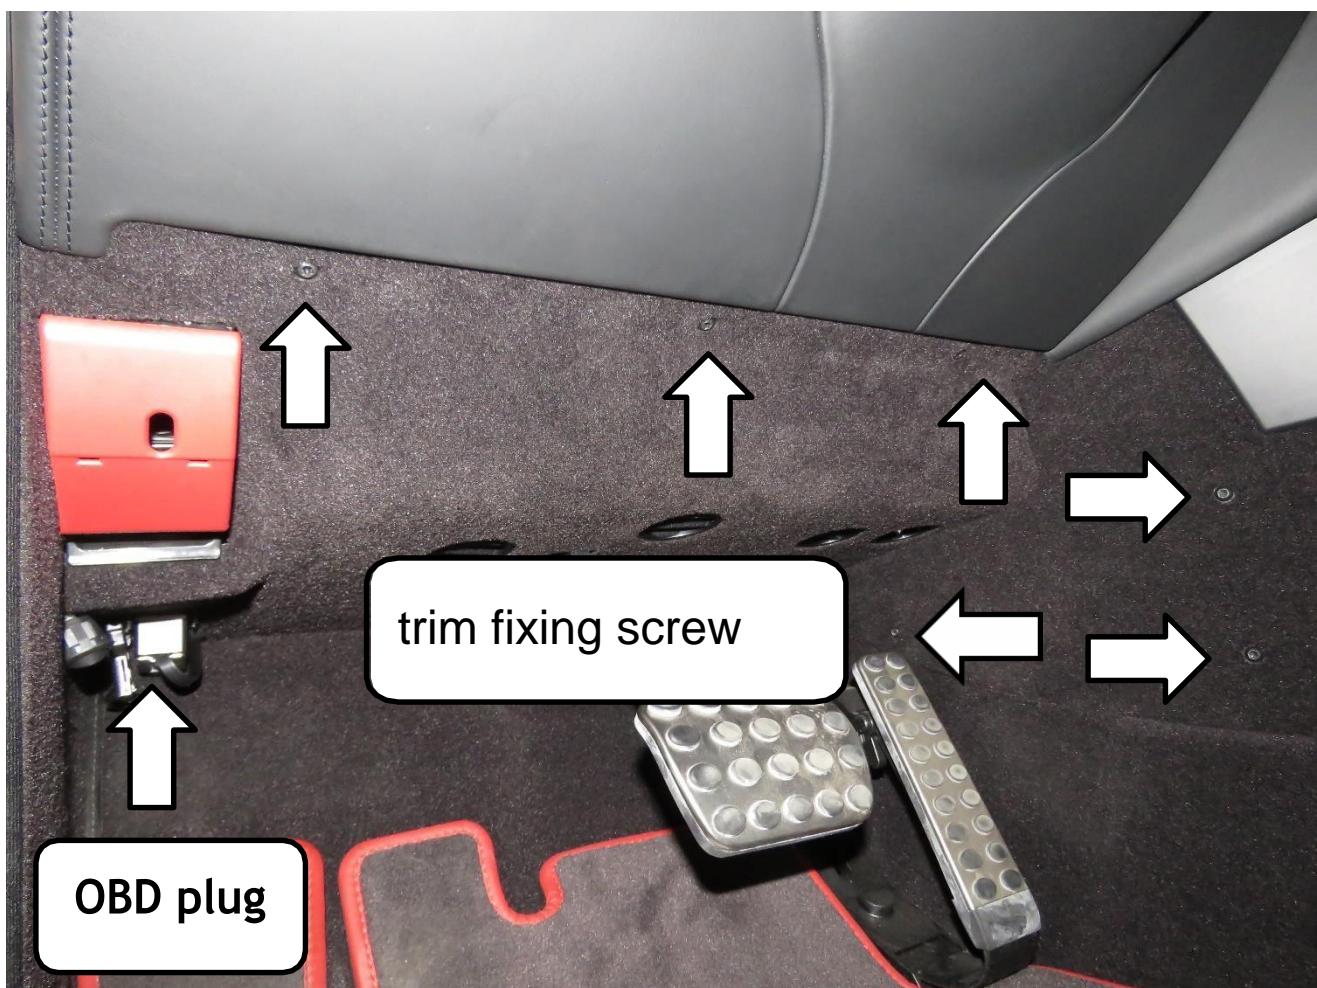

Fig.13
8. Remove the trim and fix the OBD control box to the appropriate position below the steering wheel, and connect the OBD plug and wiring (Fig.13).